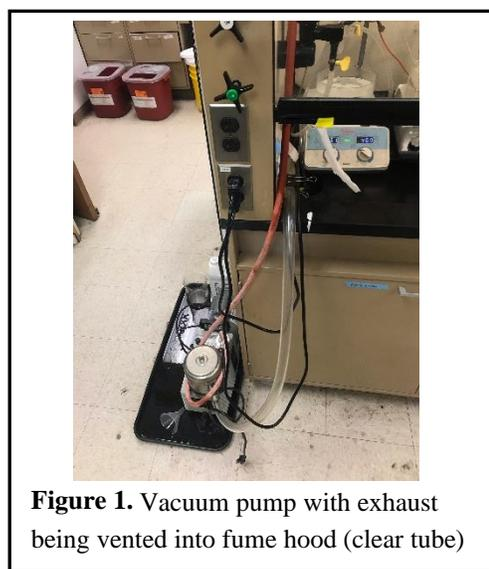

Figure 1. Vacuum pump with exhaust being vented into fume hood (clear tube)
1. Before you turn on the vacuum pump, make sure that the exhaust of the pump is being directed within the fume hood (Fig. 1). If this is not the case, then any solvent fumes that reach the pump will be vented into the open atmosphere and users will be exposed to any *hazardous* vapors that may be given off.